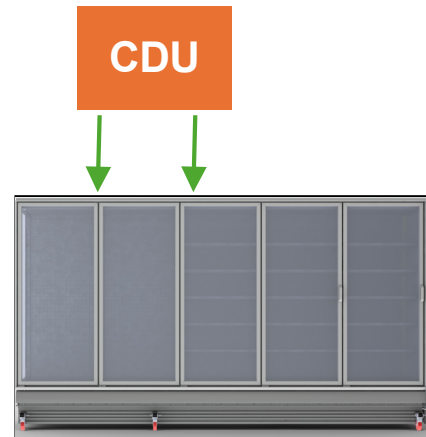
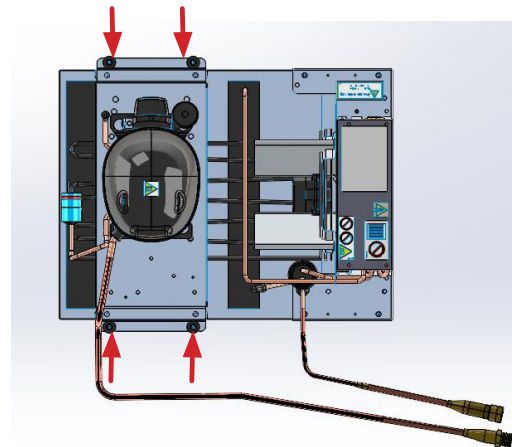

Fig. 22 Reinstall CDU
Fig. 23a Reinstall CDU screws (2 & 3 door MT)
1. Condensing unit can now be placed back on top of the case using a two-person team and the same drain pan hold points (Fig. 22). Reinstall CDU screws to secure the unit (Figs. 23a & 23b-c).